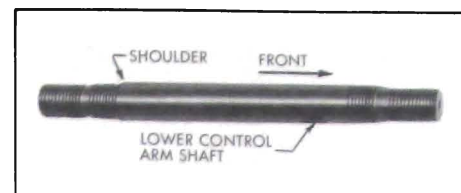

Figure 7-22—Lower Control Arm Shaft
**NOTE:** The shaft to front suspension cross member threads on the rear of the shaft are smaller than the threads on front of the shaft. See Figure 7-22. This permits removal of the shaft after the threads on the shaft are disengaged from their respective threads in the front suspension cross member. The front of the shaft is stamped "F".